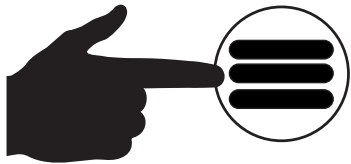

Figure 88. Main Menu Button
6. Press the **Main Menu** button (Figure 88).